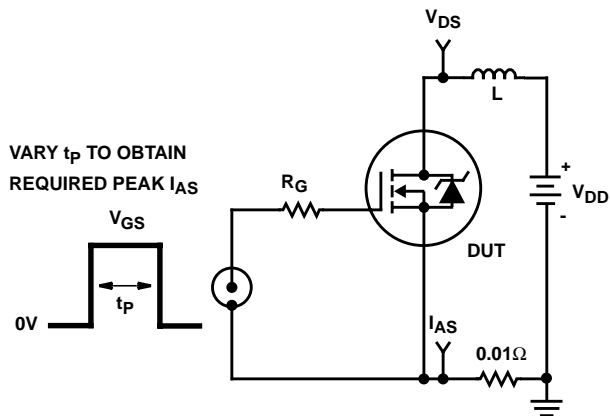

FIGURE 14. UNCLAMPED ENERGY TEST CIRCUIT
4.  $V_{DD} = 20\text{V}$ , starting  $T_J = 25^\circ\text{C}$ ,  $L = 3.3\mu\text{H}$ ,  $R_G = 50\Omega$ ,  $I_{PEAK} = 9\text{A}$ . (See Figures 14 and 15).